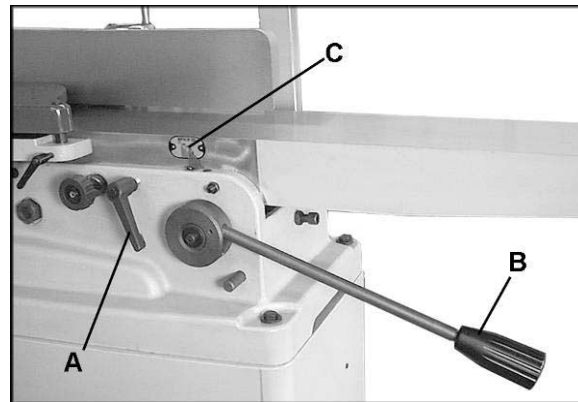

Figure 28
6. Raise the infeed table until it contacts the straight edge. To raise the infeed table, loosen the locking handle (see A, Figure 28) and lift the adjustment arm (B, Figure 28). When it contacts the straight edge, tighten the locking handle (A, Figure 28).
6. Lower the infeed table out of the way, by loosening the locking handle (A, Figure 28) and pushing down on the adjustment arm (B, Figure 28).